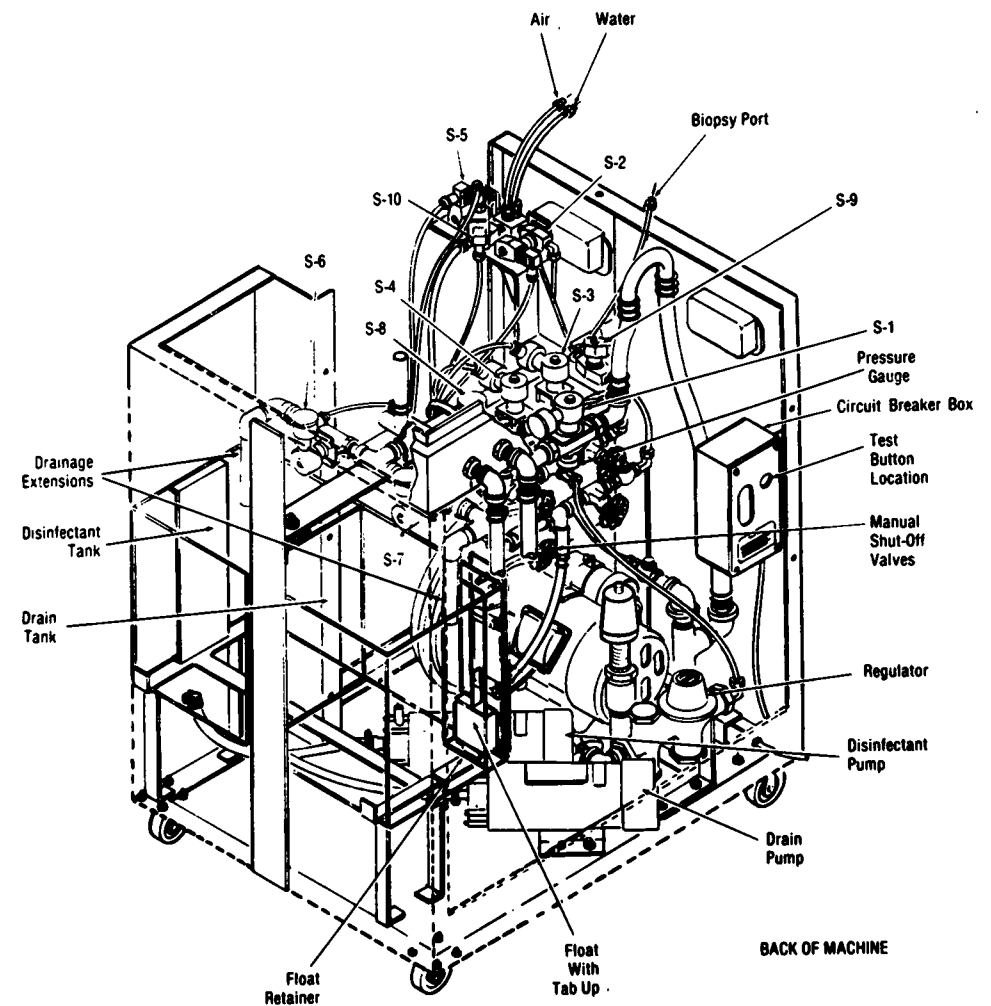

Figure 5-2. LOCATION OF INTERNAL COMPONENTS.
4. Install pressure gauge as follows (reference Figure 5-2):
5. Locate the float shipped loose with the machine. Insert the float in the channel with the magnetic switch facing down and the plastic rectangular extension up (reference Figure 5-2).
- a. Plug the washer into a 115 V receptacle. Locate the circuit breaker in the rear of the washer (reference Figure 5-2). Ensure that the circuit breaker is in the "on" position. Press the test button on the circuit breaker and check that the breaker trips to the "off" position. Reset the circuit breaker to the "on" position.